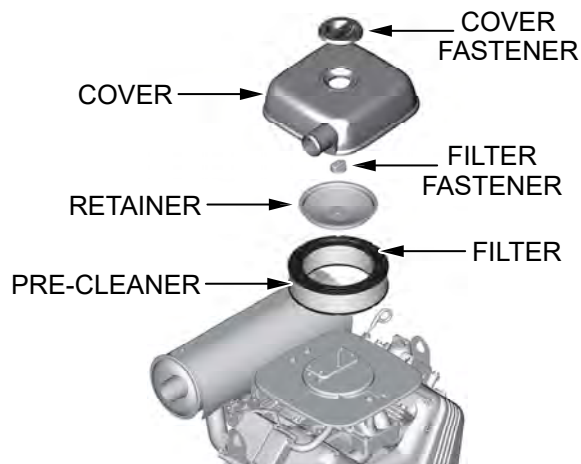

Figure 30. Engine Air Cleaner
The engine air cleaner is equipped with a **paper air filter** (Figure 30) and a **foam pre-cleaner**. Remove the **air cleaner cover** and inspect the filter elements. Clean or replace dirty filter elements. **ALWAYS** replace damaged filter elements.
2. Remove the **air cleaner cover fastener** (Figure 30).
3. Remove the **air cleaner cover** (Figure 30).
4. Remove the **filter fastener** and **retainer** (Figure 30).
5. Remove the **air filter** (Figure 30).
6. Remove the **pre-cleaner** (Figure 30) from the air filter.